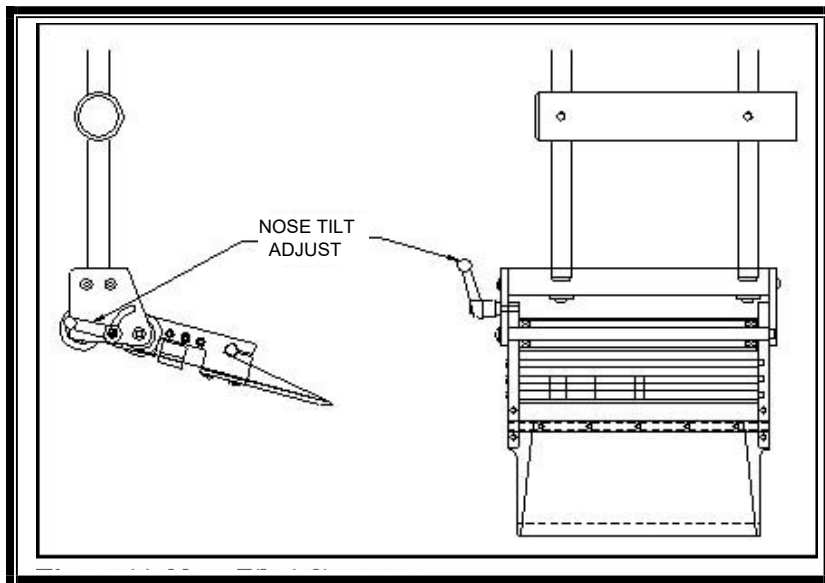

Figure 13 Nose Tilt Adjustment
3. Position the applicator nose at a 15-25° angle to the side of the conveyor. Adjust the angle by loosening the kip lever shown in *Figure 13*, moving the peeler plate to the proper angle, and then tighten the kip lever.